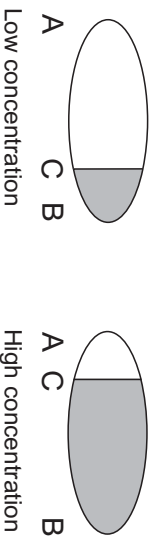

Figure 1.3 Optical images
The refractive index n_D changes with the process solution concentration and temperature. For most solutions the refractive index increases when the concentration increases. At higher temperatures the refractive index is smaller than at lower temperatures. From this follows that the optical image changes with the process solution concentration as shown in Figure 1.3. The color of the solution, gas bubbles or undissolved particles do not affect the position of the shadow edge (C).